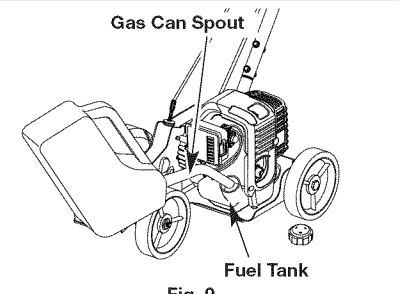

Fig. 9
- Remove the fuel cap (Fig. 9).
- Place the gas container's spout into the fill hole on the fuel tank (Fig. 9) and fill the tank.
**IF COLD...** For cold weather conditions (below 40°F), flip the Cold Weather Start Lever (Fig. 9) down to the start/closed position and continue to step 3. **DO NOT** flip this lever down if the temperature is above 40°F.